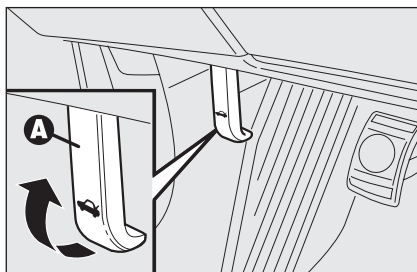

fig. 86
- ☐ pull lever **A-fig. 86** until hearing the releasing click;